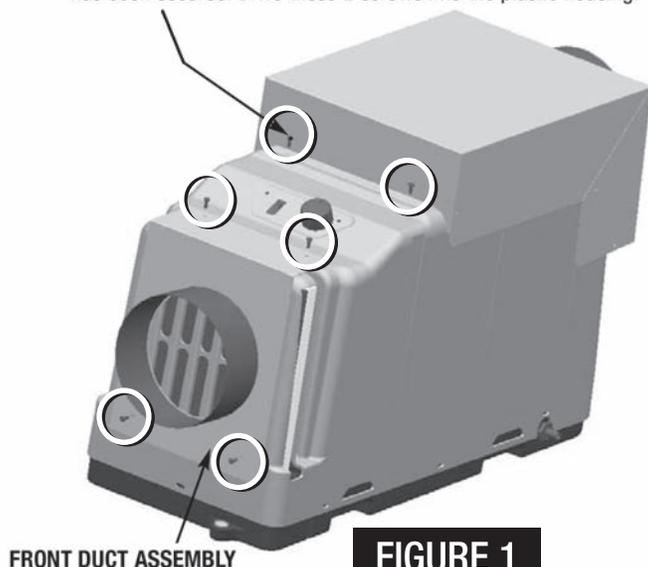

FIGURE 1
4. **DO NOT DRILL PILOT HOLES FOR SCREWS. You will risk possibly damaging the internal components.** Using the through holes provided in the top duct assembly, screw in the four 10-16 X 1/2 screws directly into the plastic housing (see Figure 1 — screws indicated in white circle). Be careful not to strip loose. Lightly tighten screws. Do this in all four through hole locations.